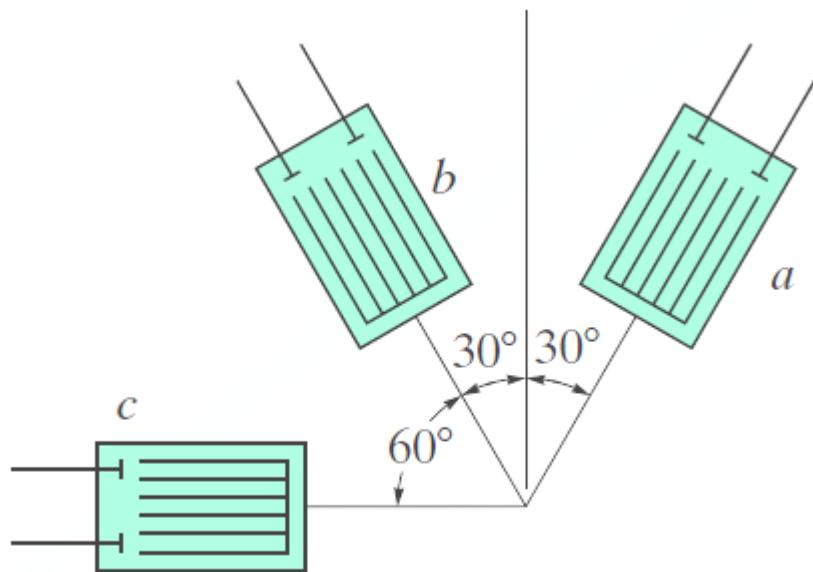

Fig. 4.4
4.4 The strain rosette of configuration shown in Fig. 4.4 is mounted on a beam. The following readings are obtained for each gauge: